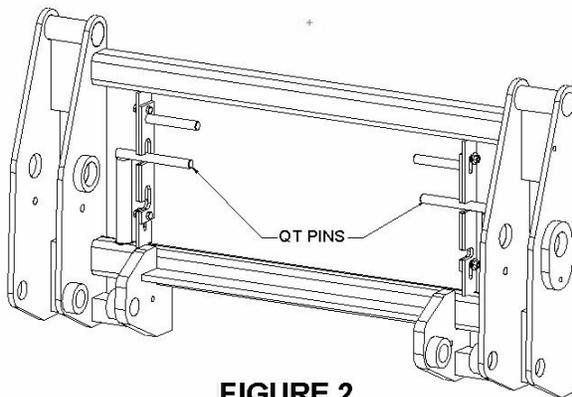

FIGURE 2.
**STEP 2** The loader should have been dismantled (or assembled) on flat, level ground (see Figure 2).
**STEP 2** Remove the stand legs from their stored position and place them in their dismount position. Slide the inner tubes down to the extended position and secure them with the 3/4" pins. See Fig. 2.
2. Rotate QT pins out of the lower notches, raise, and then rotate them into the upper notches of the sliding latches as shown in Figure 2.
2. When the QT frame is flat against the attachment, raise the sliding latches as shown in Figure 2.